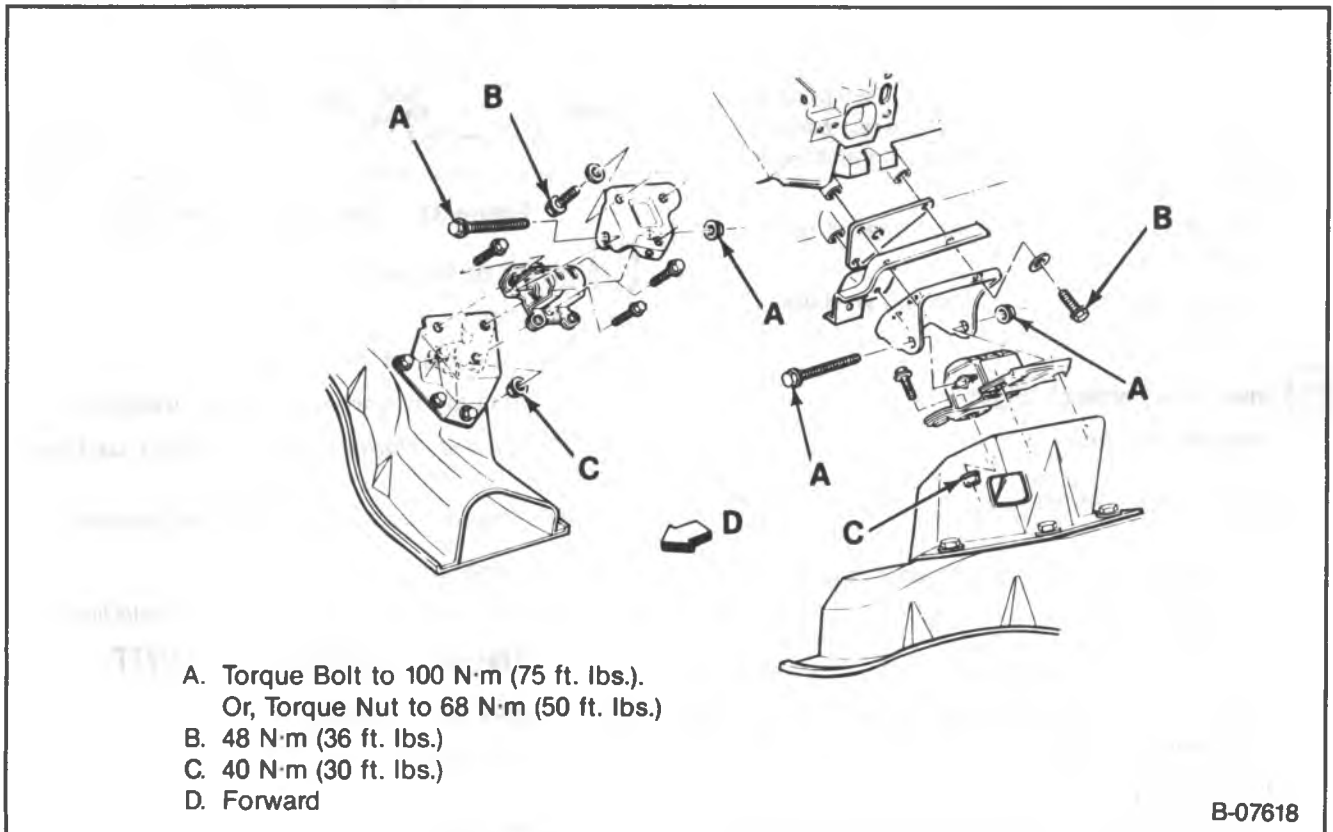

Figure 36 — Front Engine Mounting
↔ Remove or Disconnect (Figure 36)
↔ Install or Connect (Figure 36)
- Fasteners to specifications. Refer to figure 36.
- Through-bolt or nut to specifications. Refer to figure 36.
Install or Connect (Figure 36)
- Through-bolts or nuts to specifications. Refer to figure 36.